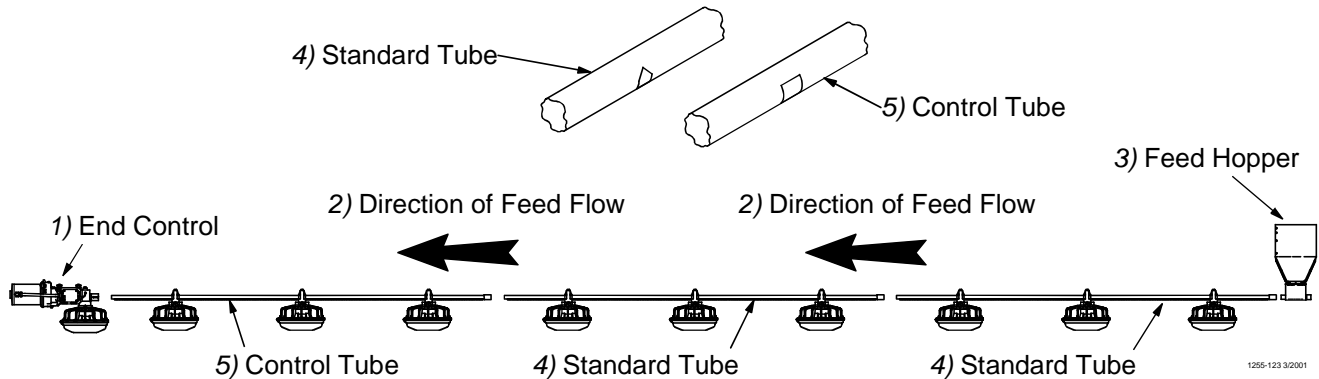

Figure 21. Attaching Feeder Tube Assemblies
1. The auger tubes and feeders may be laid out end to end in approximately the final location of the line. **The belled end of each tube should be toward the Hopper end of the line.** See **Figure 21**.